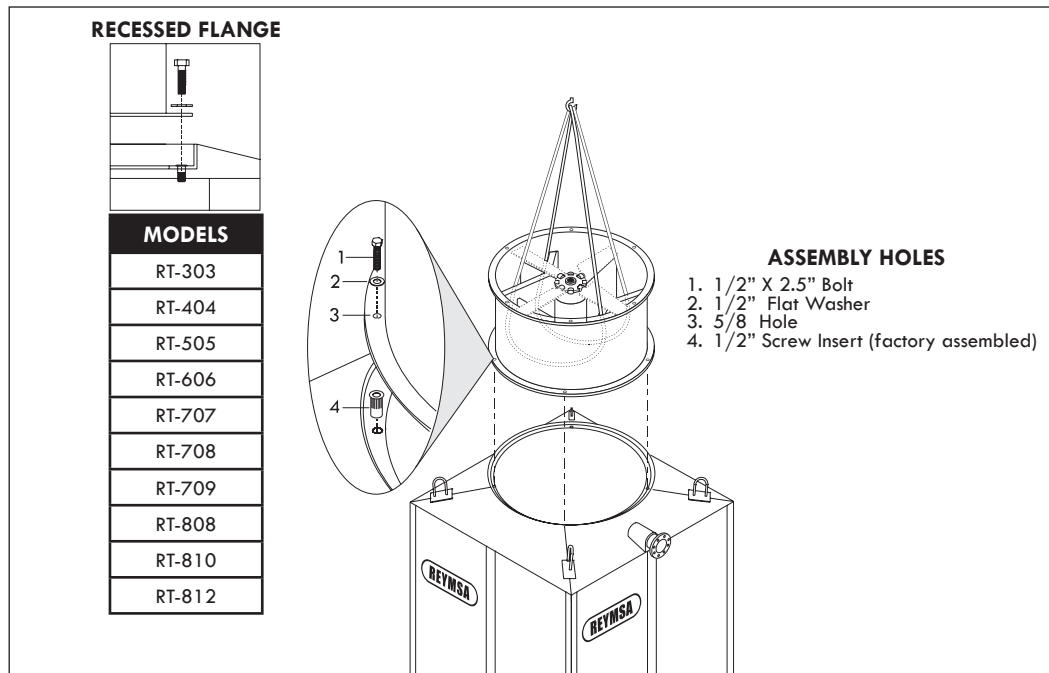

Figure A-11: Fan Duct assembly for a Single Fan Tower
- L. Then cradle/straddle the fan support with the straps (as shown in figure A-11) so you can lift the fan duct with a crane and assemble it.
- M. Now place the fan duct on the receiving flange of the upper section; make sure the bolt holes and the marks inside the fan duct and the distribution manifold (located inside of body section) are aligned (see Figure A-11 and A-12). Secure it with the stainless steel nut and bolt sets supplied by REYMSA.